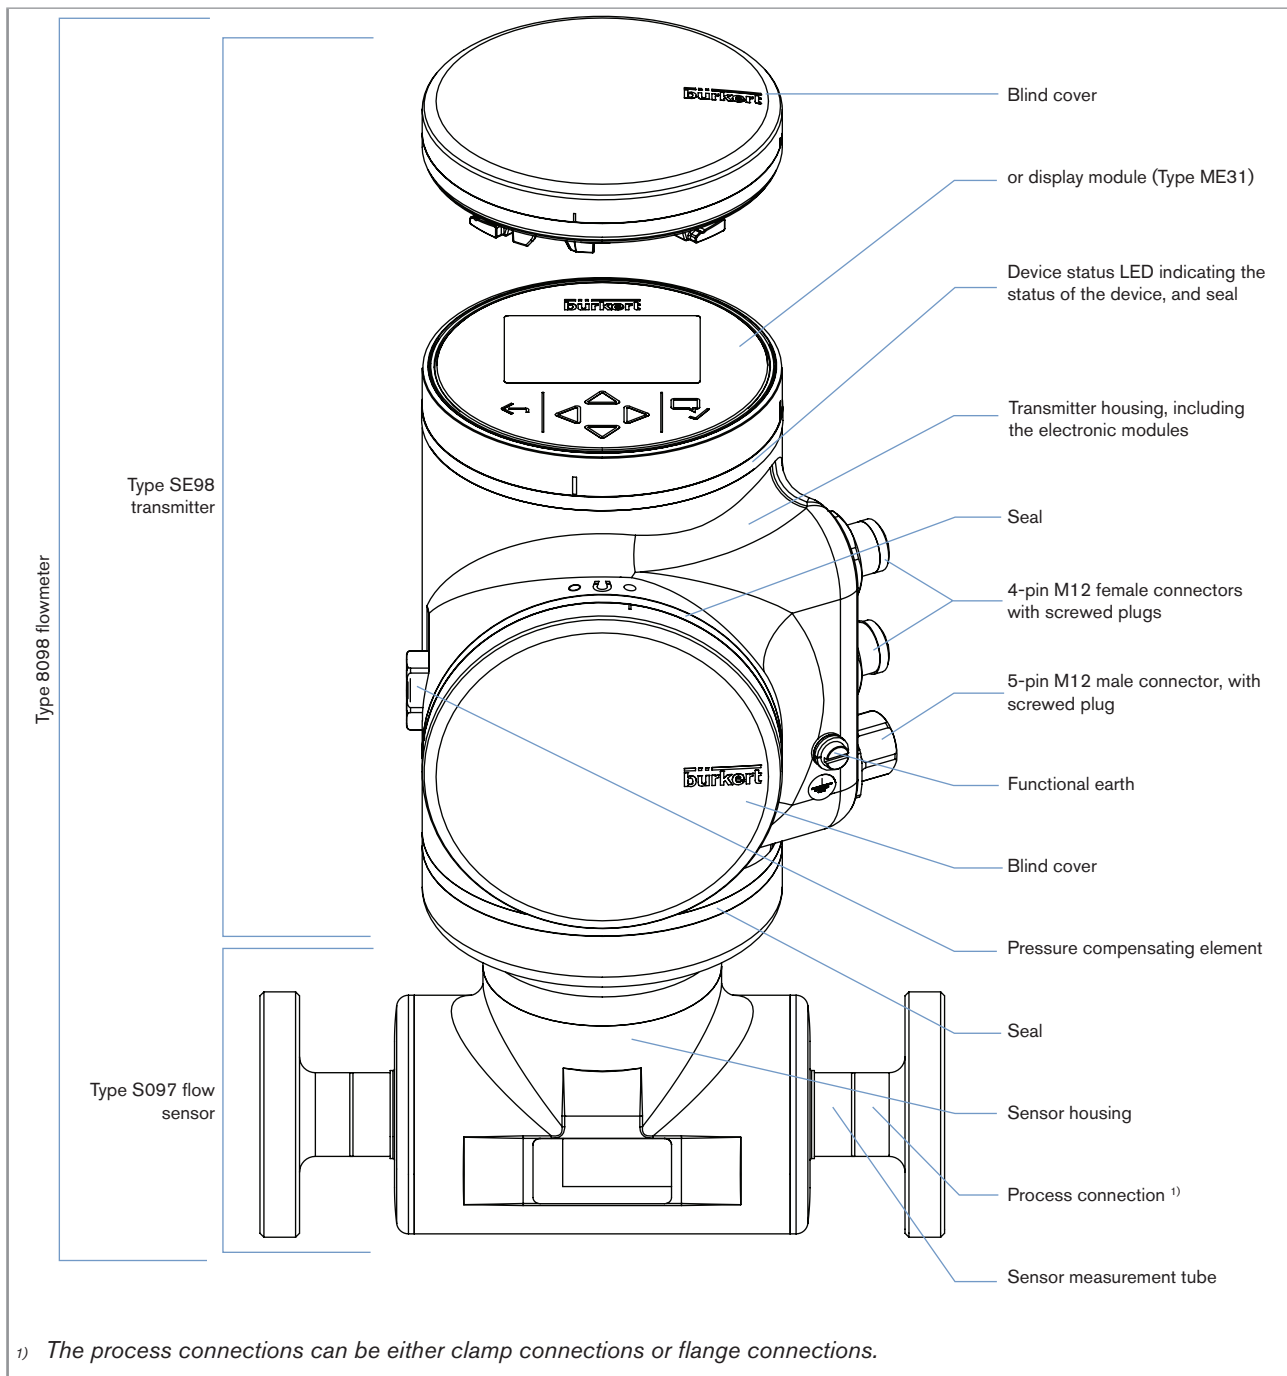

Fig. 2 : Description of an Ethernet version of the device, with 2 4-pin M12 female connectors and 1 5-pin M12 male connector
- Fig. 2 describes the Ethernet version of the device, i.e. a device with 2 4-pin M12 female connectors and 1 5-pin M12 male connector.